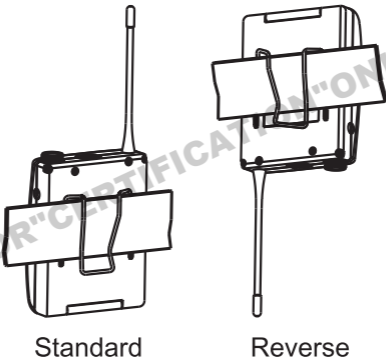

Fig.2
- ③ Transmitting Antenna.
- ④ Housing.
- ⑤ LCD Panel.
- ⑥ SET button.
- ⑦ MODE button.
- ⑧ Power Switch.
- ⑨ ACT Sync Window.
- ⑩ Battery Compartment.
- ⑪ Battery Cover.
- ⑫ Remote control mute connector.
- ⑬ Reversible Belt Clip, Fig. 2.
- ⑭ Battery Charging Contact. (Rechargeable)
- ⑮ Battery protection circuit reset button. (ACT-70TC/52TC/32TC Rechargeable)